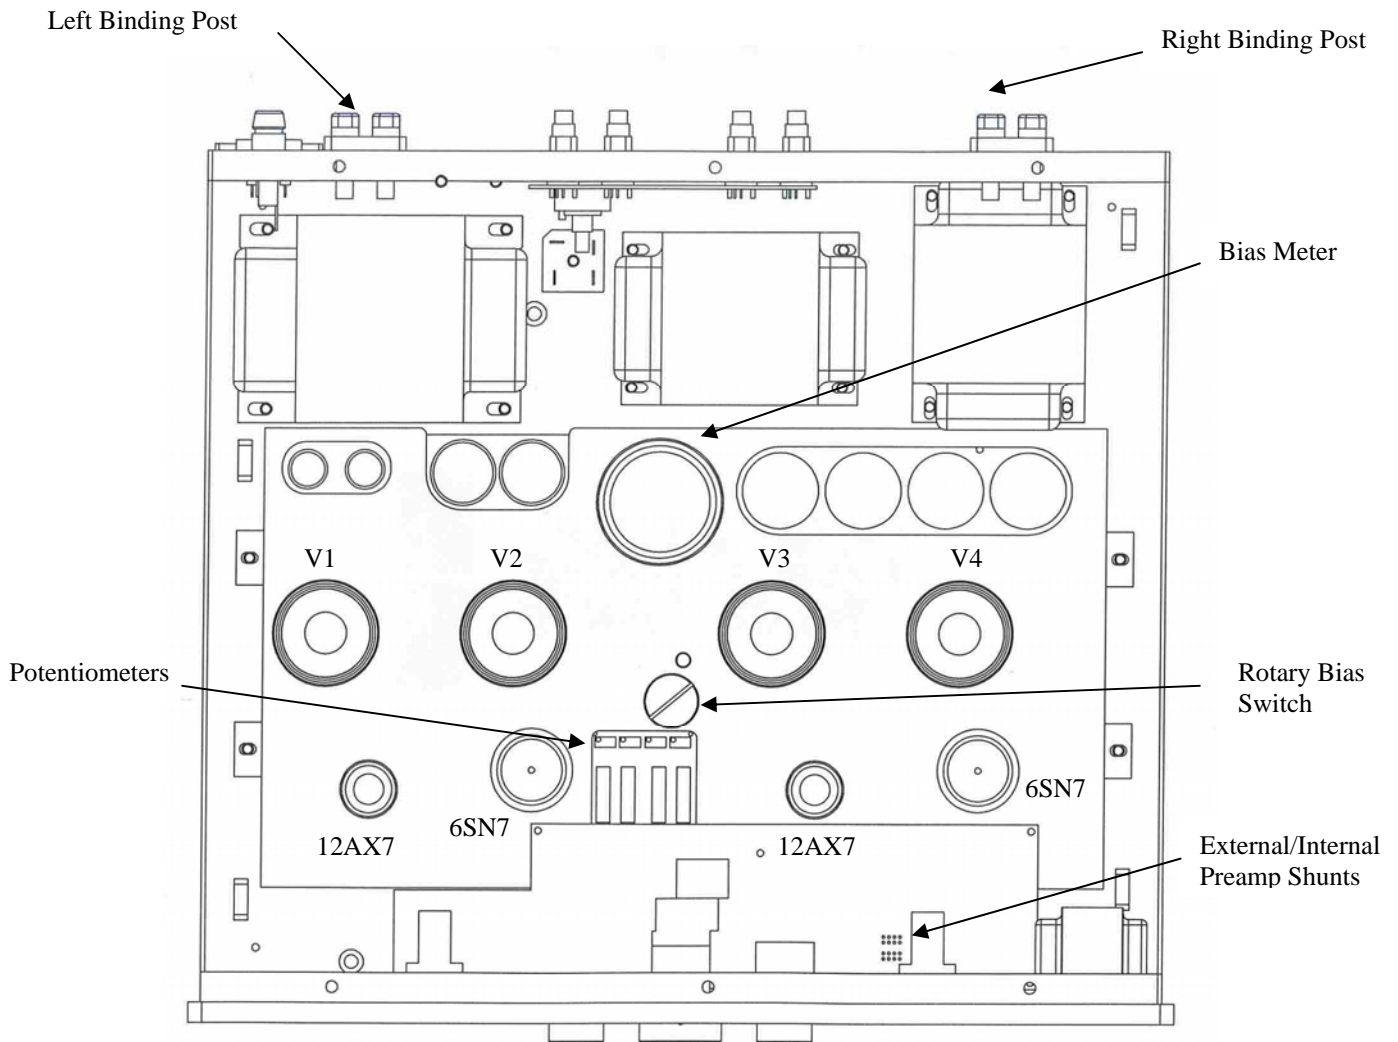

Figure 1 Tube and Deck Layout
4. Remove the top cover of the amp using a #2 phillips screw driver to remove the 10 cover screws. Using a glove or a clean dry cloth , install the tubes using the diagram in Figure 1. The Output Tubes will have a label designating their proper locations.
- 2) Locate the four small shunts on the control circuit board as shown in figure 1.